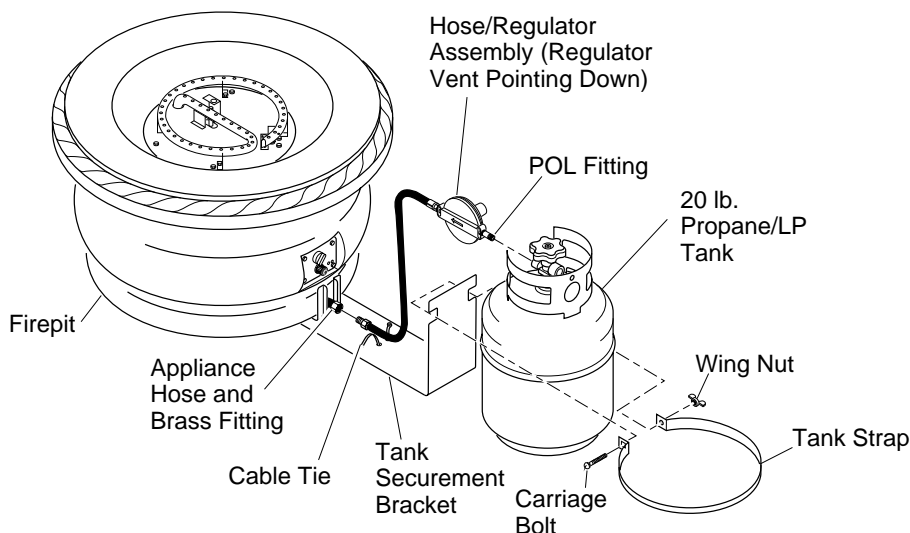

Figure 3 - Connecting Appliance to Portable 20 lb. Propane/LP Gas Tank
3. Set a filled 20 lb. propane/LP tank against the outside of the tank securement bracket with the tank valve pointing toward the firepit. Do not set the tank ON the bracket (see Figure 3). Wrap the tank strap around the tank so that the strap tabs are facing the firepit. Insert the carriage bolt through the strap tab with the square hole. Tighten wing nut securely onto bolt (see Figure 3).
4. Attach the hose/regulator assembly to the appliance hose brass fitting (see Figure 3). Tighten firmly using a wrench.
5. Connect the POL fitting on the hose/regulator assembly to propane/LP tank. Turn POL fitting counterclockwise to secure to tank. Tighten firmly using 7/8" wrench. **IMPORTANT:** Position regulator so that regulator vent is pointed down (see Figure 3). Pointing the vent down protects it from freezing rain or sleet.